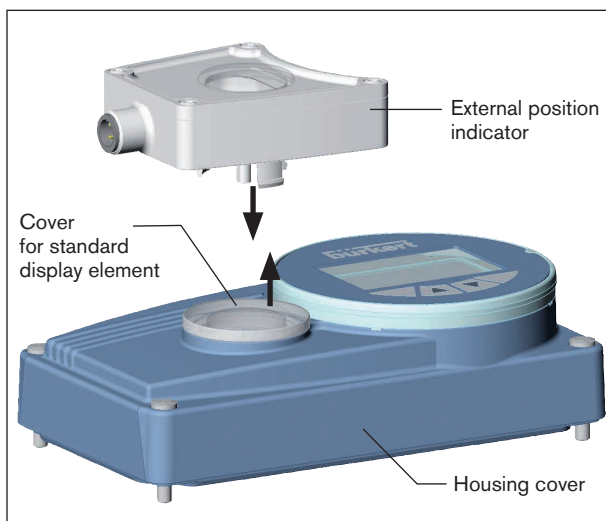

Fig. 2: Connecting external position indicator
- Gently pull the cover of the standard position indicator out of the housing cover (see "Fig. 2").
- Place the external position indicator in the round recess of the housing cover and press down until it engages (see "Fig. 2").